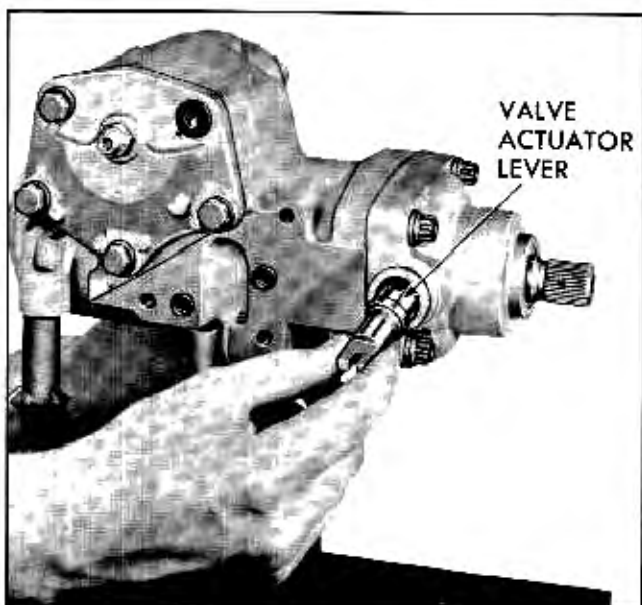

Fig. 9-29 Removing Actuator Lever
3. Remove valve actuator lever from housing top cover (Fig. 9-29).